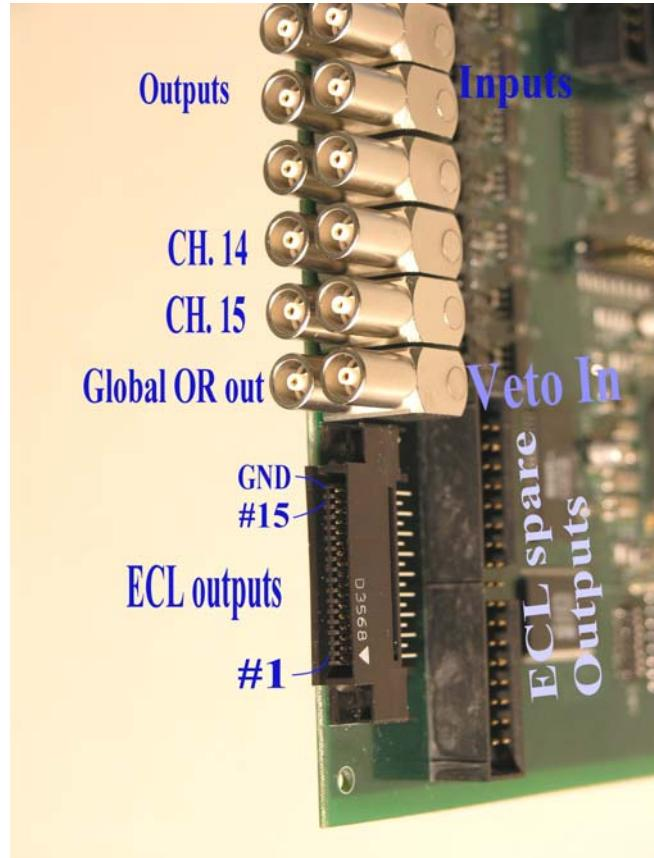

Figure 6: Front Panel Bottom
2.1.g: Veto in (figure 6)
2.1.h: Global OR output (figure 6)
2.1.i: ECL Outputs (figure 6)
2.1.j: ECL spare Outputs (figure 6)